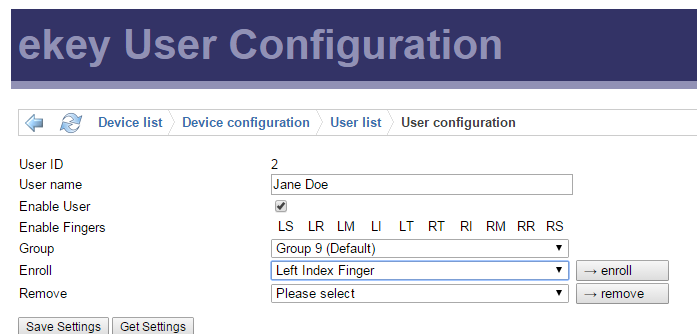

Figure 319: ekey User Configuration page.
3. To edit the user click the pencil icon  which opens the **User configuration** page as shown in Figure 319. Enter a user name and select a finger to enroll, e.g. left index finger.